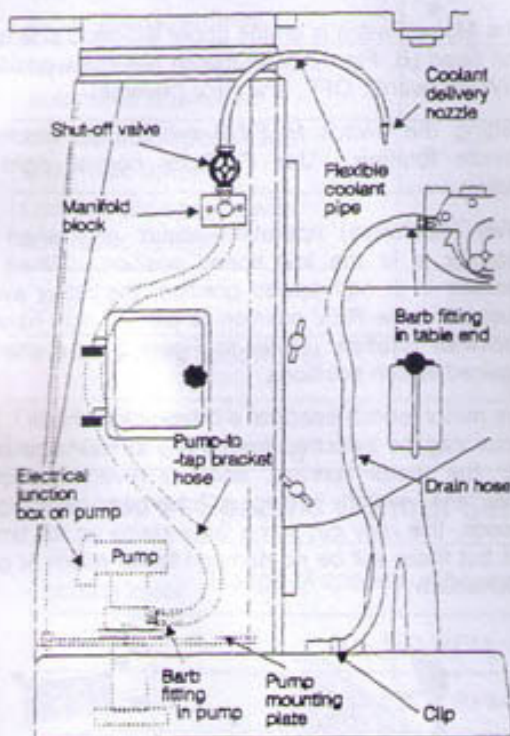

Figure 2
14. Slide hose clips on hose from motor (refer to Figure 2 for location).